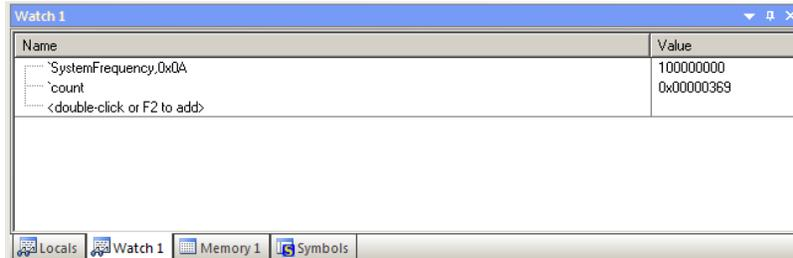

Figure 10: Watch Window
6. Double-click on the value of count and enter 0 and press Enter. See Figure 10.